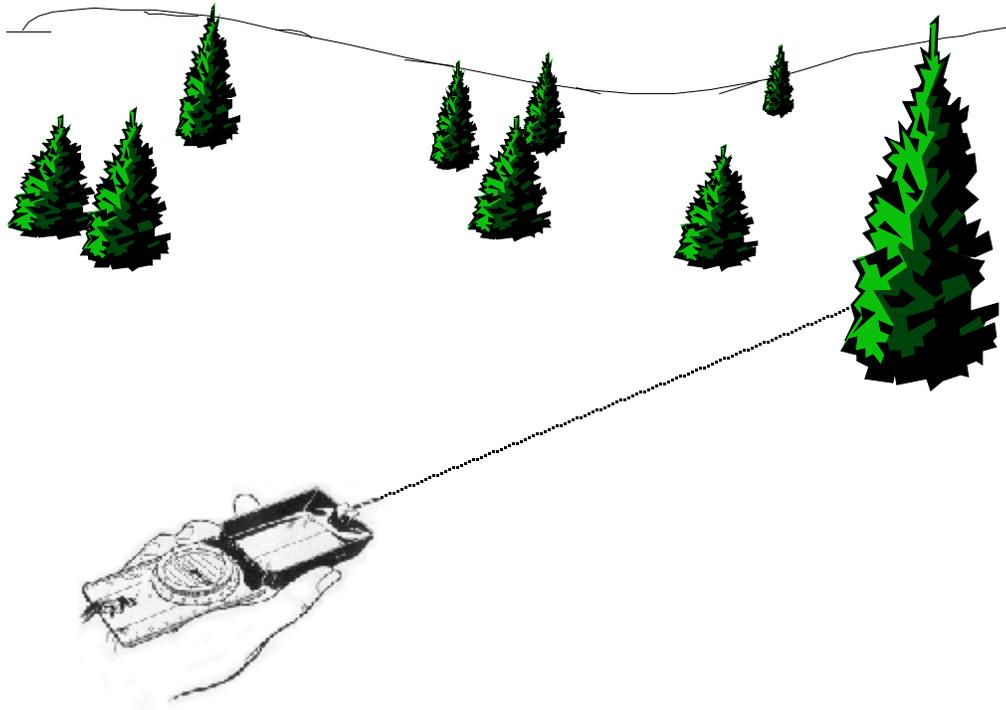

Figure 1. Taking a compass bearing when sighting on a landmark.
2.3.5 Orient the compass so that the sighting (the line oriented along the long axis of the compass body--see Figure 1 below) is also pointing directly into the wind.